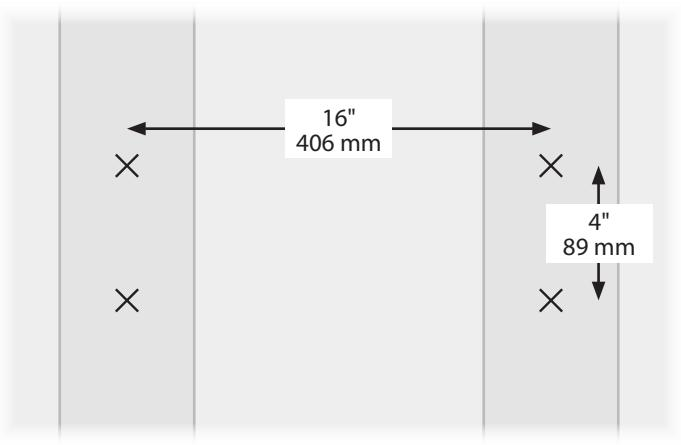

FIG. 6
- 6** Using appropriate fasteners for the wall type you are installing your system onto, drill into and install fasteners into the wall at all marked locations [FIG. 6].